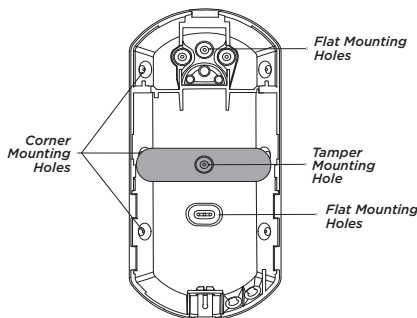

Figure 3: Mounting Hole Locations
2. Place the 1120/1120DT base against the wall and screw through the appropriate mounting holes. See *Figure 3* for mounting hole locations.